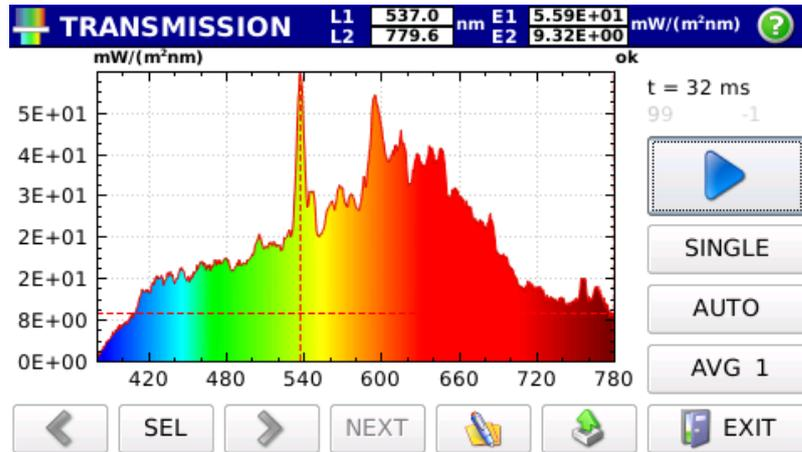

Fig. 3.25 : Reference spectrum acquisition
3.4.3 Press **REF** to acquire the reference spectrum. The spectrum is displayed on the screen (fig. 3.25).